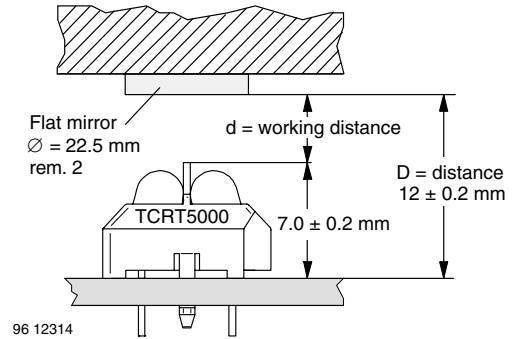

Fig. 3 - Test Circuit
(2) See figure 3
(3) Test surface: mirror (Mfr. Spindler a. Hoyer, Part No. 340005)